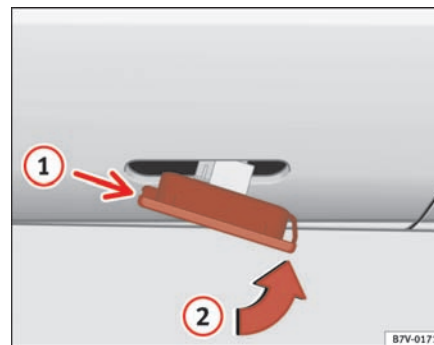

Fig. 165 Side indicator
- First fit the turn signal in the opening of the chassis, securing with the tabs ① ⇒ page 245, fig. 165 and then, fit the bulb as shown by the arrow ②. ■